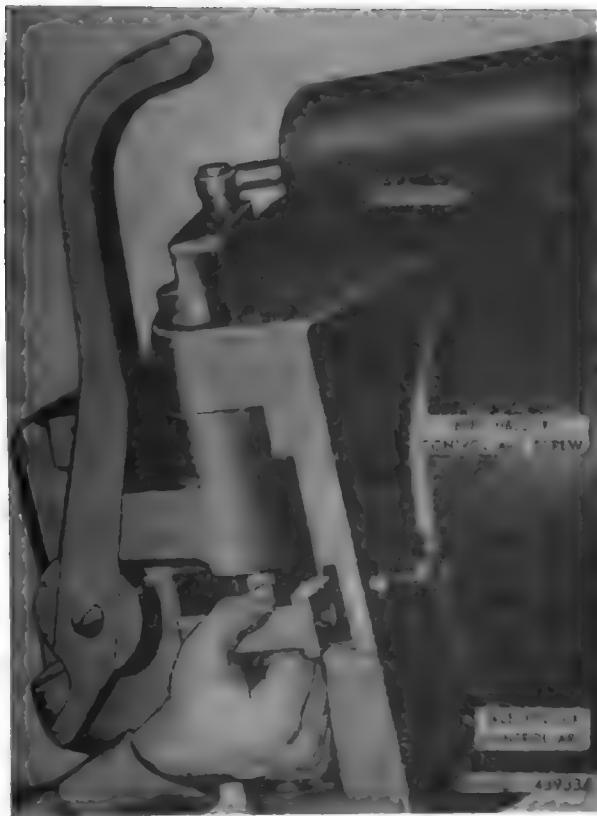

Figure 105. Removing or installing breechblock control arc.
- Remove the breechblock control arc screw from the breech ring (fig. 105), and withdraw the control arc from the breech ring.
(8) Carefully swing the carrier to closed position, easing the breechblock into the breech recess without permitting the edges of one part to strike those of another. Insert the breechblock control arc in the breech ring (fig. 105). Secure the arc in place with the breechblock control arc screw.
(9) Check operation of breech mechanism and adjustment of counterbalance assembly. A properly adjusted counterbalance provides smooth and even operation of the breech mechanism. This